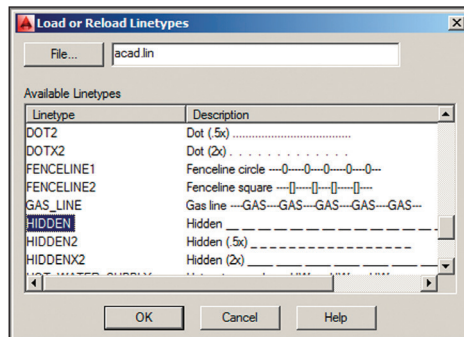

FIGURE 6.20 Loading the Hidden linetype
2. In the Linetype Manager dialog box that appears, click the Load button. Scroll down in the Load Or Reload Linetypes dialog box that appears and select Hidden in the list (see Figure 6.20); then click OK. Hidden now appears in the Linetype Manager dialog box because this particular linetype style has been loaded in the drawing file; click OK to close the Linetype Manager dialog box.